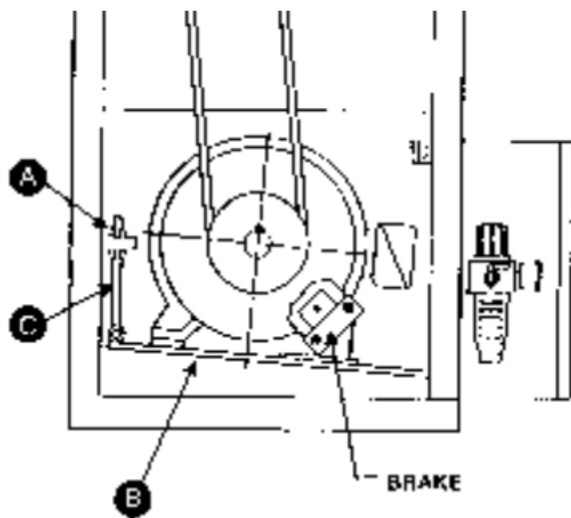

FIGURE 5
After the machine has been in operation for a long time, the V-belt may become slightly loose. Should this occur, there will be an abnormal sound while the motor is running. Adjust the V-belt as follows (Figure 5): Slightly loosen the lock nut (A) that tightens the motor base (B), and turn the adjustment screw (C) until correct tension is achieved. Re-tighten lock nut (A).